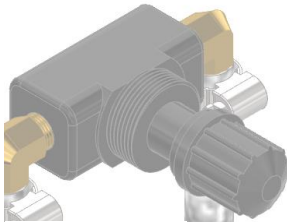

Figure 13
6. An air flow control valve, located on the operator's side of the machine (*Figure 13*).